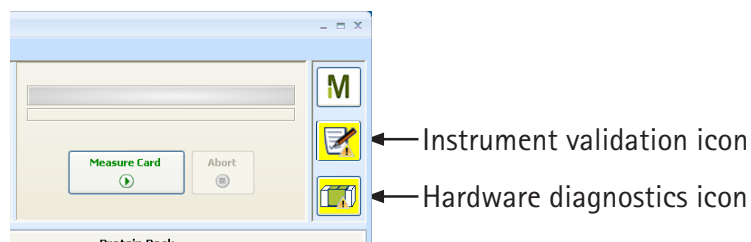

Figure 4. Hardware diagnostics icon
2. During initialization, the laser, IR source, and detector are switched on. The IR source warms up, the scanner moves forward and backward several times, and tones once. This phase takes several minutes, and hardware diagnostics icon (Figure 4) is yellow. After the initialization has been completed successfully, the hardware diagnostics icon turns to green, but the instrument validation icon will be yellow. This indicates that the PQ test has expired and needs to be run. Refer to section 12.5 for instructions on running the PQ test.